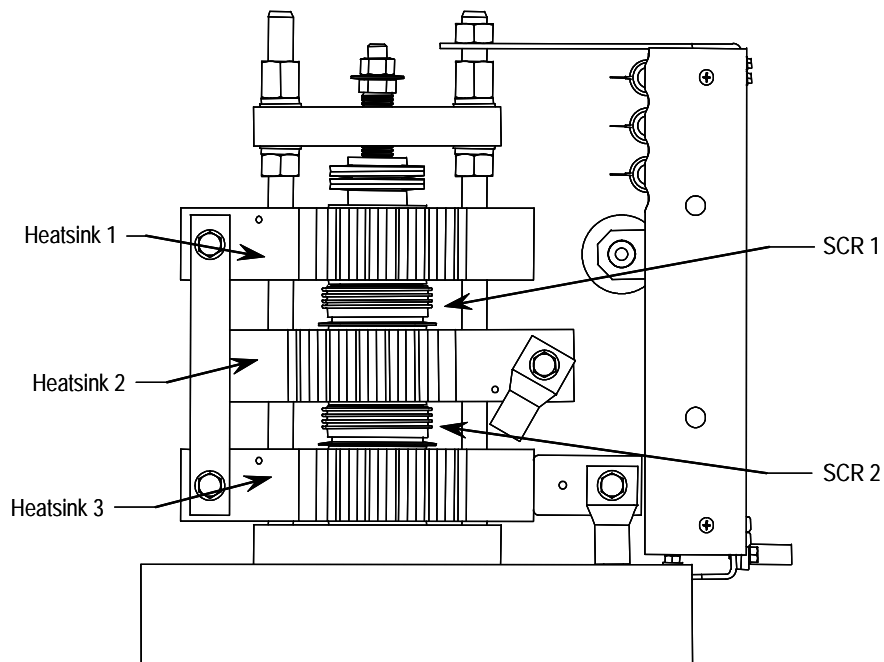

Figure 9.5 – Power Module Assembly (one phase) • 1000/1300/1500/2400 V, 180/360 A
- Refer to Figures 9.5 to 9.16.